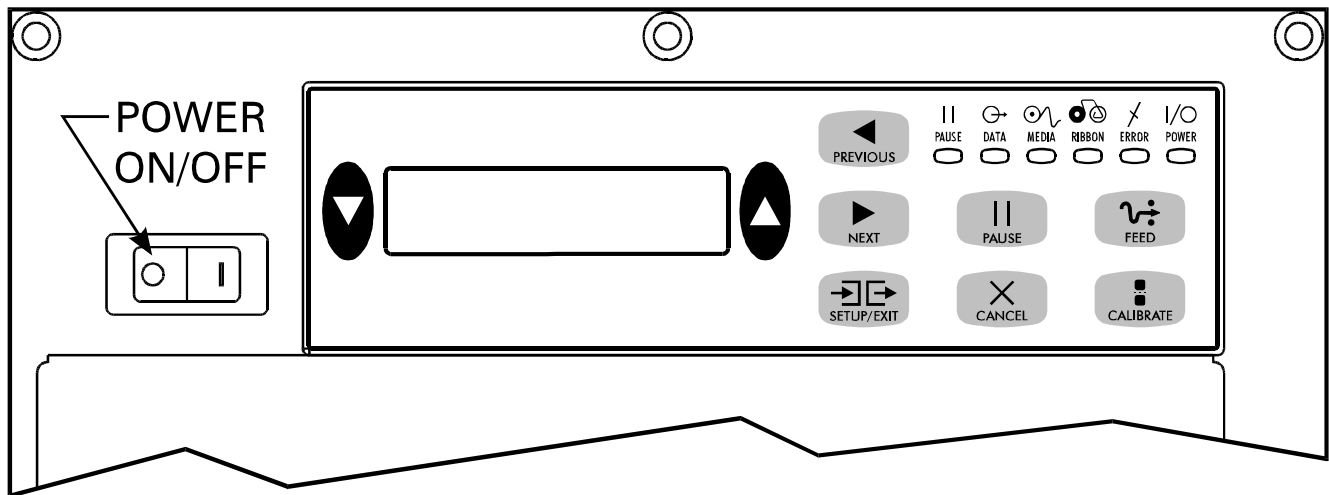

Figure 7. Control Panel (Right-Hand Unit)
Refer to Figure 7 on page 18 and insure that the front panel AC Power ON/OFF Switch is in the OFF (O) position before connecting the AC Power cord to a nearby electrical outlet.
The Power On/Off Switch is located just to the left (or right) of the print engine's control panel (see Figure 7 on page 18). When this switch is placed in the ON (1) position, the POWER light goes ON and the print engine automatically performs a Power On Self Test (POST). The Liquid Crystal Display validates the steps in the self test.
Refer to Figure 7 on page 18. Specific uses of these keys are explained with each parameter setting description in “Configuration & Calibration” on page 21.
The control panel shown in Figure 7 contains a backlit Liquid Crystal Display (LCD). It shows operational status as well as programming modes and feature parameters.
LEDs on the front panel are a quick indication of the print engine's status (see Figure 7 on page 18).